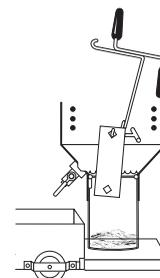

FIGURE 18
5. **Remove Heat Plate** - Inspect from above to see that cooking oil has drained out of cookpot down to level of drain valve. Wearing safety gloves, remove heat plate with basket drain hook (Figure 18) and place in safe area to cool.